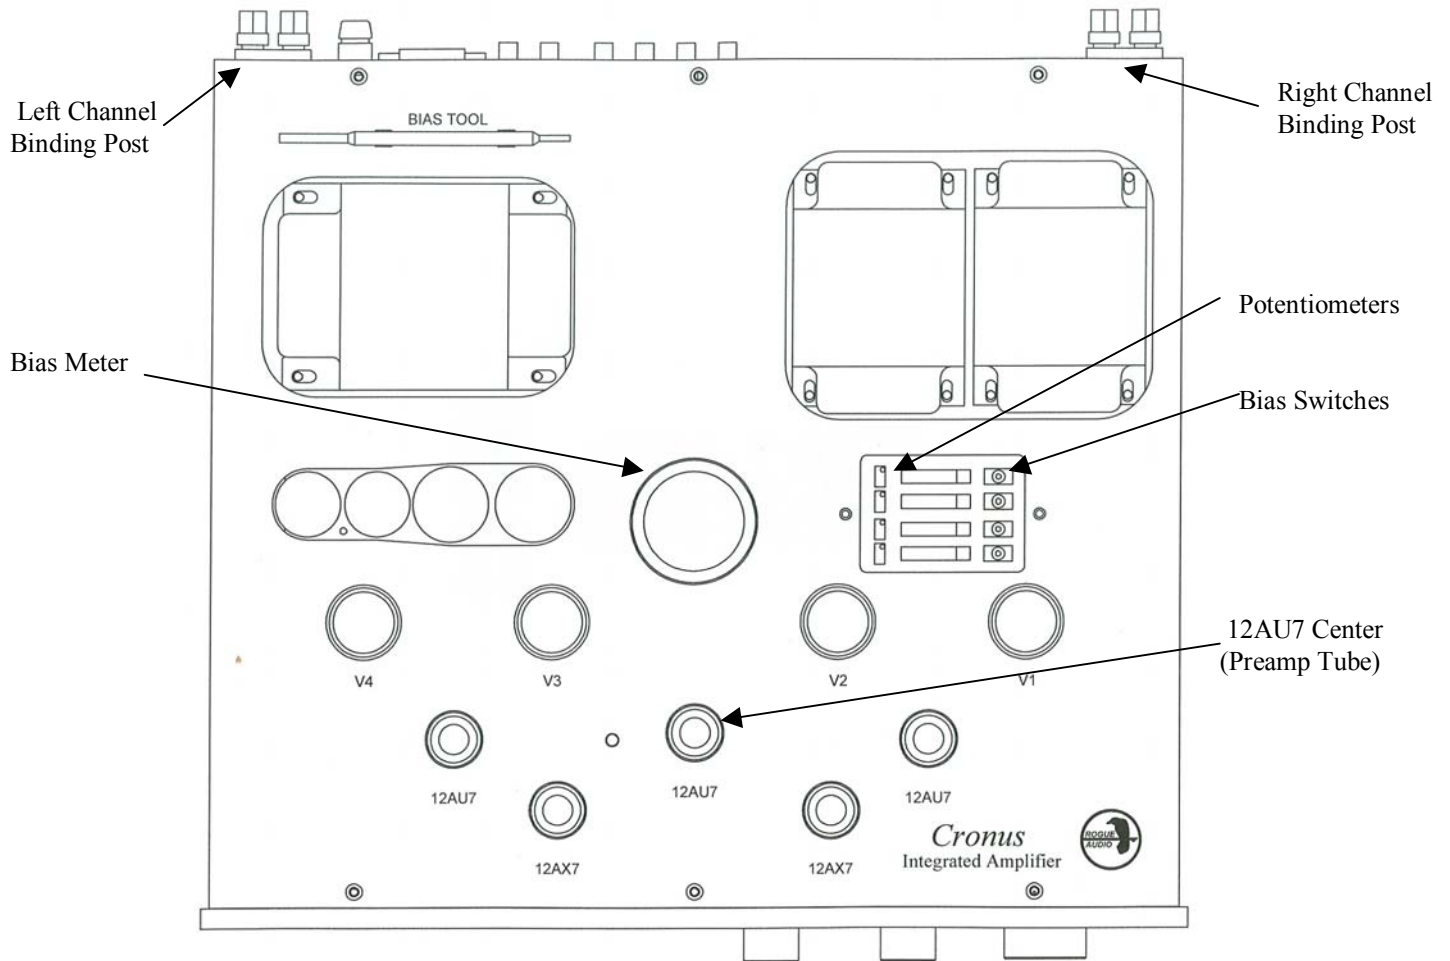

Figure 1. Tube and Deck Layout
3. Insert the tubes into the proper locations. Refer to Fig. 1 The output tubes will be marked per the figure. (ie V1,V2, etc.). The 12AU7 used in the preamp section will be marked as 12AU7 Center per the figure. Be sure to use this in the proper location as it has been selected for low noise preamp use.